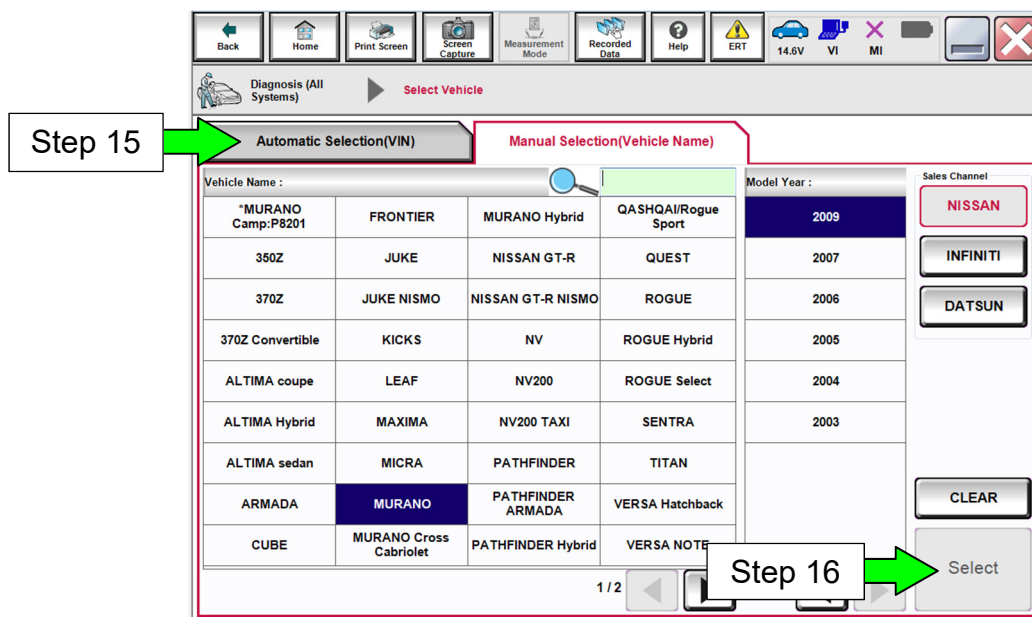

Figure 5
15. If the screen in Figure 5 displays, select **Automatic Selection(VIN)** and wait for the Reading VIN screen to complete.
- If the screen in Figure 5 does not display, skip to step 17.